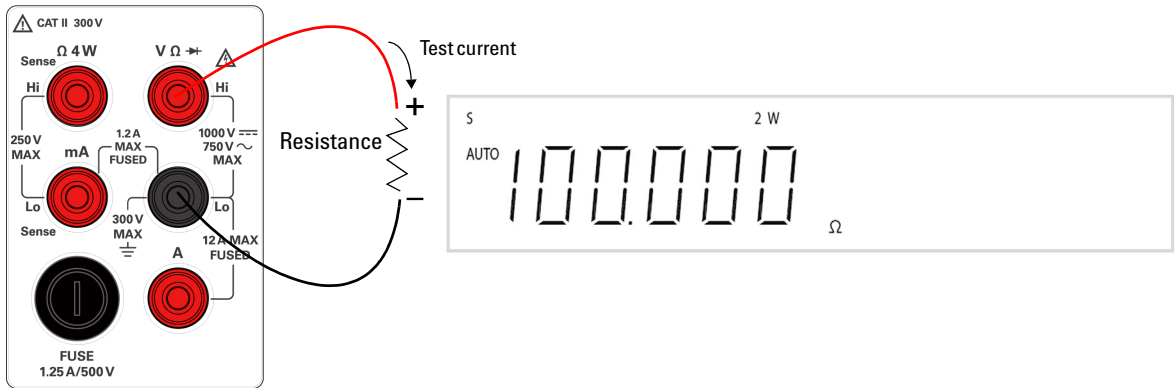
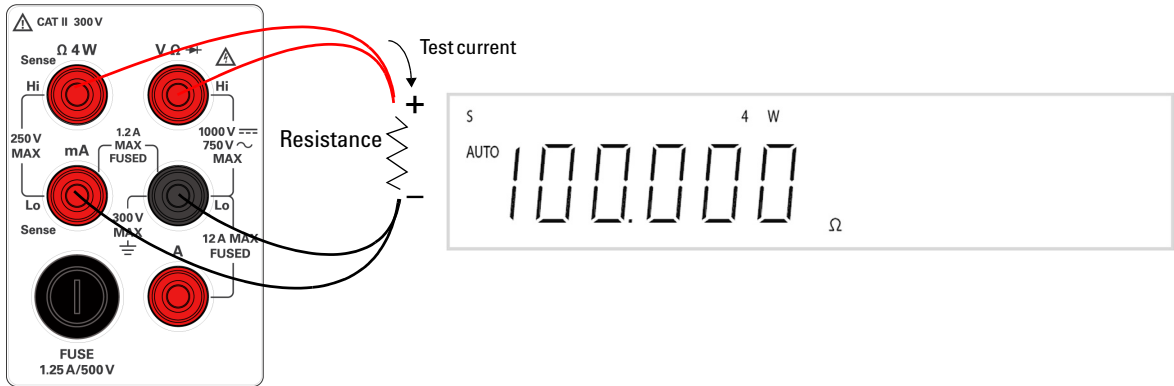

Figure 1-15 2-wire Ω terminal connection and display
Figure 1-16 4-wire Ω terminal connection and display
- 2 Connect the red and black test leads to the input terminal as shown in Figure 1-15 or Figure 1-16 on page 24 respectively (according to the selected measurement method).